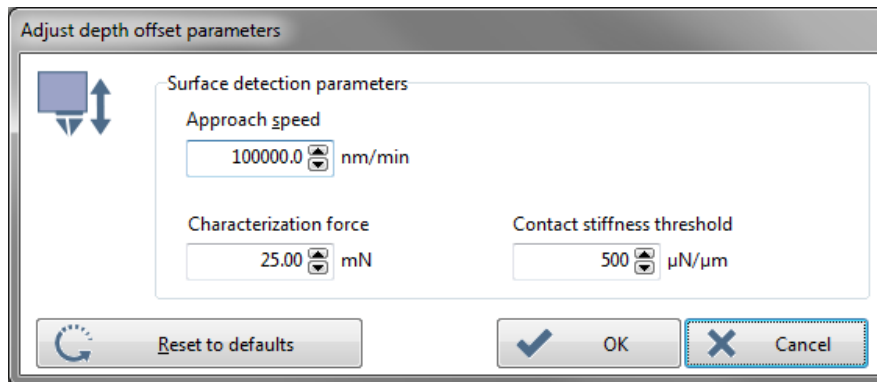

Fig.32 NHT ADO parameters window
E.g. parameters shown on Fig.32 are the default values which are normally suitable to perform a successful ADO.